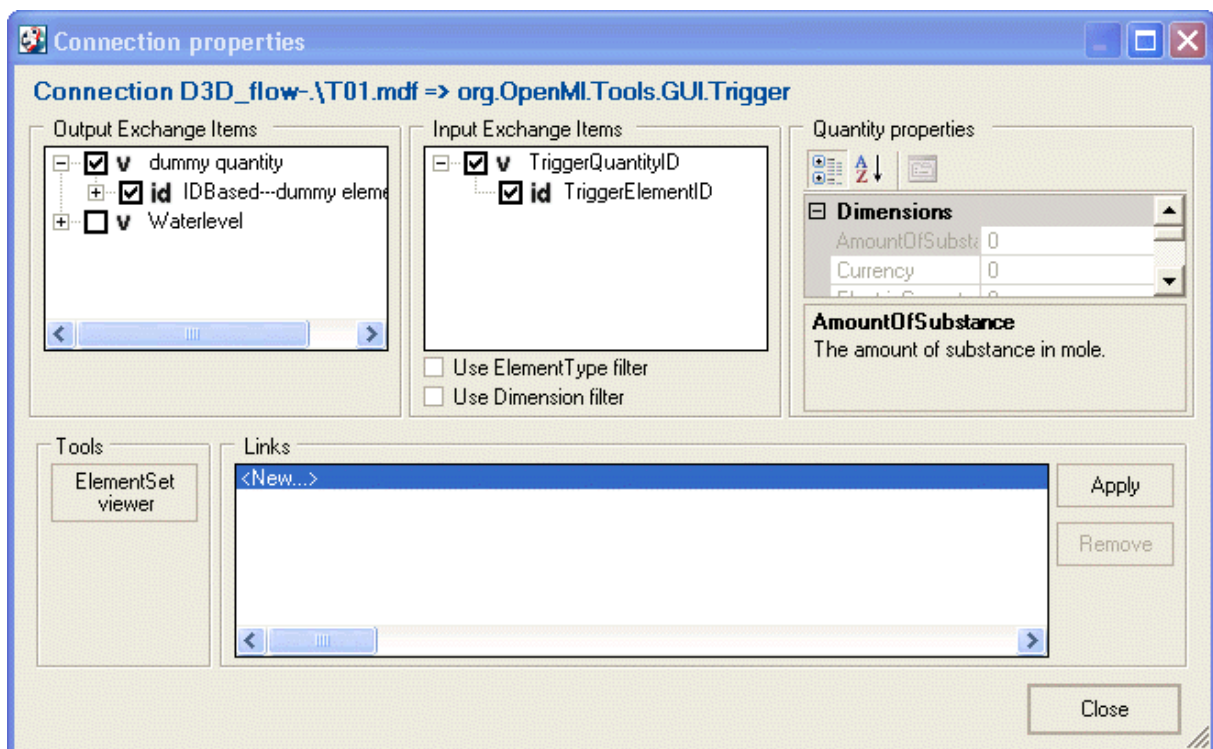

Fig. 16: Adding a link to the trigger connection from Dummy Quantity to TriggerQuantity
3. Add exactly one link to the trigger connection (Fig. 16)